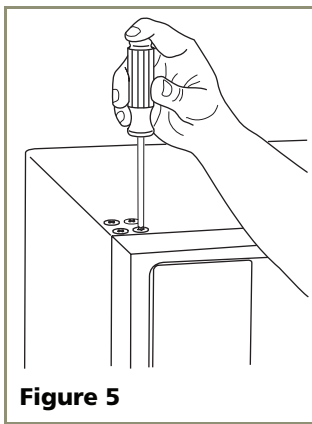

Figure 5
3. Remove four plastic plugs in hinge holes, top of cabinet, opposite side. See **Figure 5**. Be careful not to scratch cabinet.